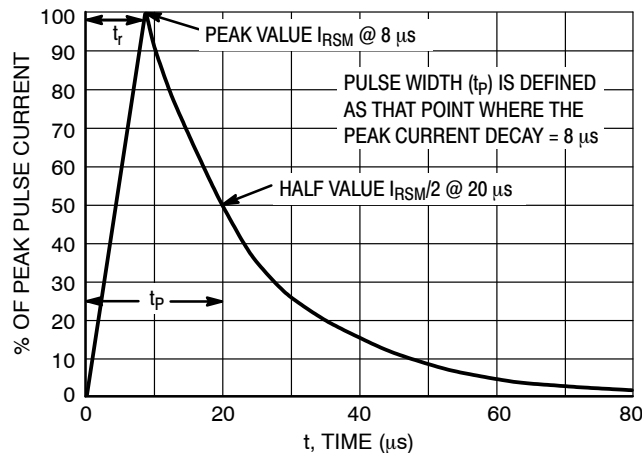
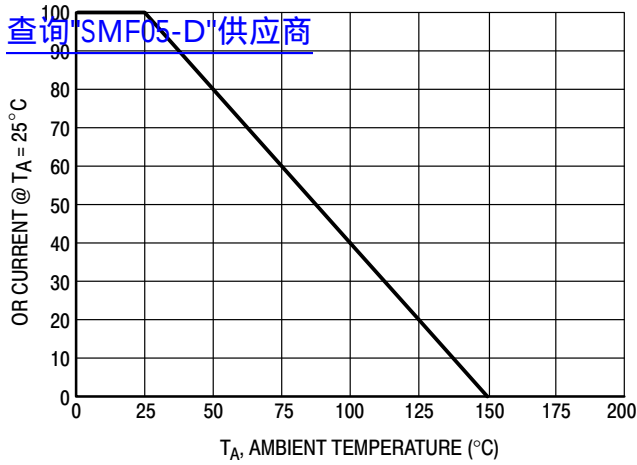

Figure 5. 8 X 20 μ s Pulse Waveform
Figure 6. Pulse Derating Curve
2. Non-repetitive current per Figure 5. Derate per Figure 6.